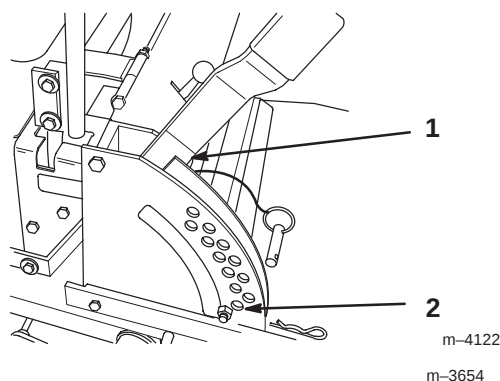
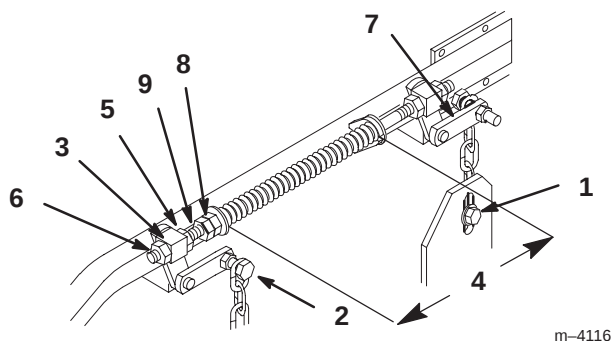

Figure 65
Figure 66
4. Raise the deck to the transport position (Fig. 65). Take force off of the two large deck lift springs by loosening jam nut and front spring nut, in front of each spring, as far as possible (Fig. 66).
5. Place two 1-1/4 inch (35 mm) thick blocks under rear left and right lower edge of mower. Place one 1-3/8 inch (44 mm) block under front center lower edge of mower. Do not place under anti-scalp roller brackets. Lower mower to the 1-1/2 inch (38 mm) height-of-cut position (Fig. 65).
6. Loosen bottom chain bolt in slot at rear of deck. Repeat for opposite side (Fig. 66).
7. Loosen front and rear locking nut on either side of front swivel. Loosen until front chains are loose and deck is supported by blocks. Repeat for opposite side. (Fig. 66).
8. When hardware is loosened, remaining tension in the large support springs will tend to rotate the deck lift handle up, out of the 1-1/2 inch (38 mm) position. Press down on the rear deck support arm to firmly return the deck lift handle to the 1-1/2 inch (38 mm) position (Fig. 66).
9. While continuing to press down on rear deck support arm, take the slack out of the rear chain and tighten hardware at the bottom (Fig. 66). Downward pressure may now be released. Repeat for opposite side.
14. Raise deck lift lever to the transport position (Fig. 65).
15. Adjust compression springs by turning the front spring nuts so the distance between the two large washers is 10-1/4" (260 mm). Then tighten jam nut (Fig. 66).